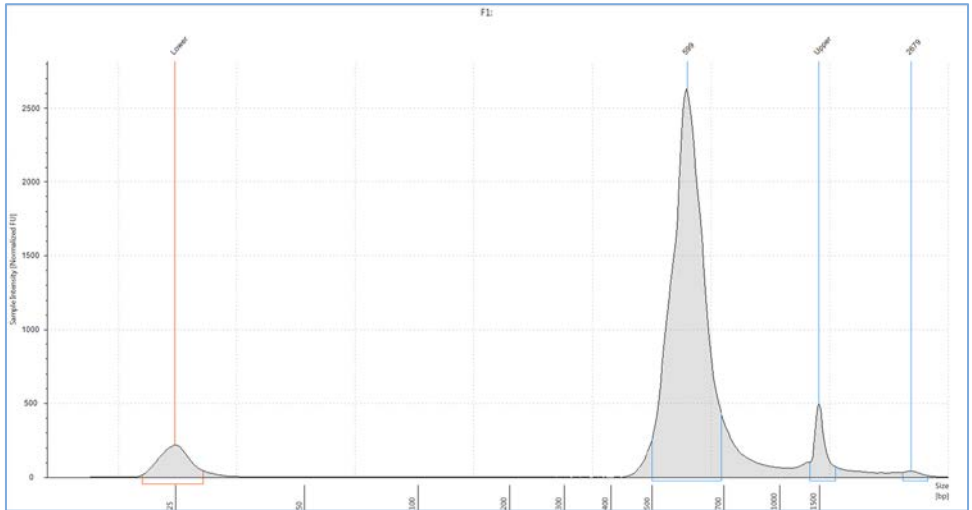
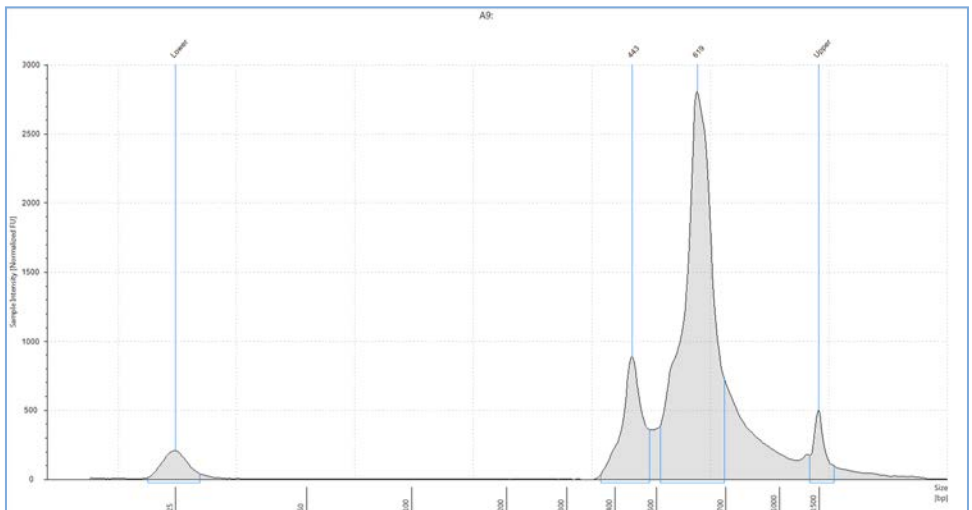

Figure 2. Bioanalyzer trace of library prepared with QIAseq 16S/ITS Screening Panel or QIAseq 16S/ITS Region Panel.
Figure 3. Bioanalyzer trace of library prepared with QIAseq 16S/ITS Smart Control (as DNA sample) and the QIAseq 16S/ITS Screening Panel.
1. Analyze 1 μ l of the QIAseq 16S/ITS Screening Panel or QIAseq 16S/ITS Region Panel sequencing library on an Agilent Bioanalyzer or TapeStation using a high-sensitivity DNA chip according to the manufacturer's instructions. A typical QIAseq 16S/ITS Screening Panel or QIAseq 16S/ITS Region Panel sequencing library is shown in Figure 2. Figure 3 shows a library that has been constructed from the QIAseq 16S/ITS Smart Control. These libraries have an extra ~440 base pair peak present as this represents the ITS amplicon, which is at equal abundance to the other 16S amplicons.